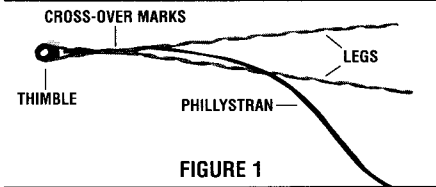

FIGURE 1
2. Insert heavy duty thimble into eye of Big Grip following "Installation Guidelines". Install Big Grip with thimble through attaching hardware. Begin the application of the grip at the cross-over marks (figure 1).